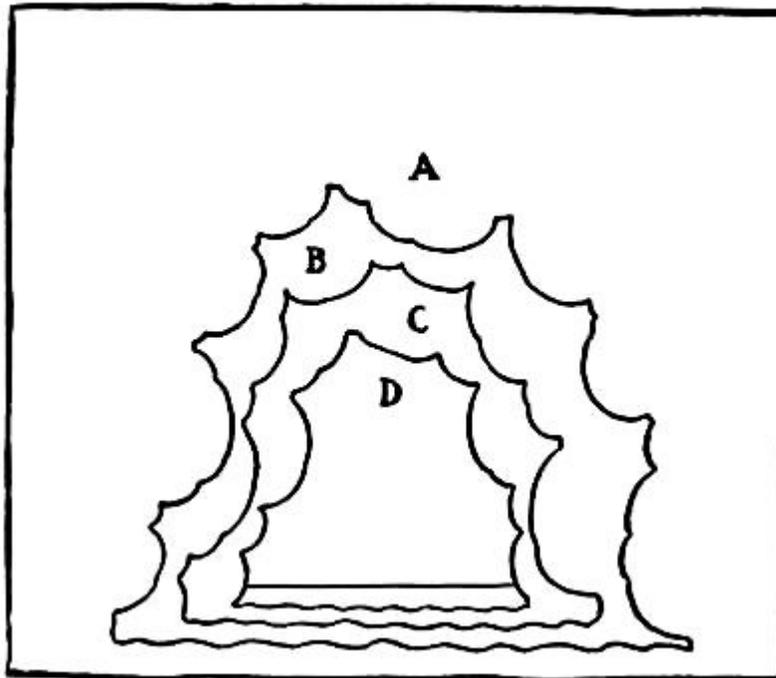
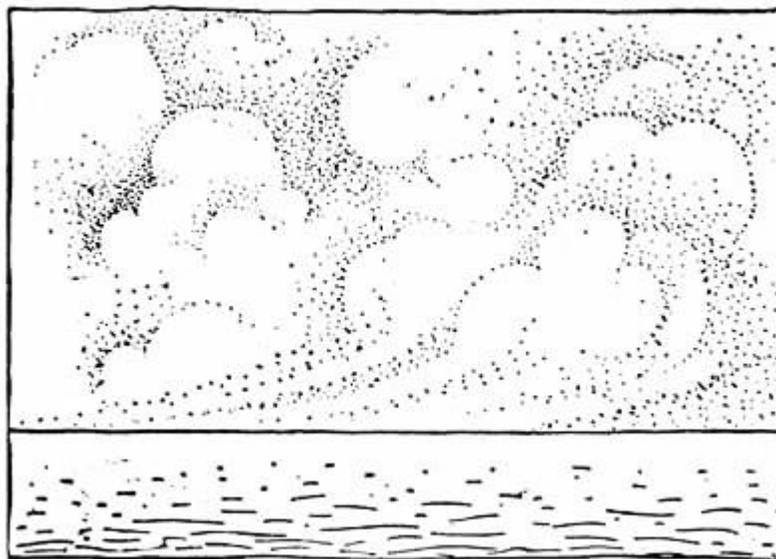

FIG. 325.—Drop for Ocean Scene.
FIG. 326.—Drop (*D* in Ocean Scene).
**An Ocean Scene** in which the entire depth of the stage is used for the setting. Here you will notice the drops have been made to extend beyond the sides and top of the proscenium opening, a thing which is necessary in order that those of your audience sitting close to the front of the theatre, or to one side of the centre of the stage, will not be able to see through the openings between the drops and wings. Figure 325 shows how the four drops necessary for this scene should be made. First sketch drop *A*, shading the clouds and waves with colored chinks as shown in the drawing of the completed theatre. Then cut out the opening in its centre, carefully following the outlines of the clouds. Lay this sheet upon another and mark out drop *B*, with a smaller opening in its centre, and then, after coloring and cutting it out in the same manner as you did drop *A*, lay it upon a third sheet and mark out drop *C*, with a still smaller opening in its centre (see Fig. 325). Drop *D* forms the background of the scene, and should be made as shown in Fig. 326, with a horizontal line separating the sky and water. With the exception of a few white caps in the foreground, no waves should be shown upon this drop.